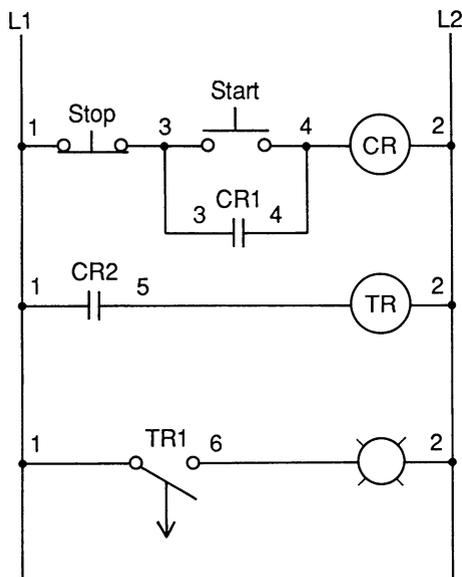

Fig. 9-6 Ladder diagram of control circuit with off-delay relay.
The off-delay relay shown in Fig. 9-6 is a ladder diagram of a control circuit. The *start* button is pushed and a voltage is applied to the relay's coil (CR). Then the START button is released, so CR-1 closes and maintains voltage to coil CR. Contact CR-2 also closes and a voltage is applied to coil TR. Contact TR 1 closes immediately and the indicator lamp turns on. The *stop* button is pushed and voltage is removed from coil CR. All CR contacts open. Voltage is also removed from coil TR. However, contact TR-1 remains closed for a preset period of time and the indicator lamp remains on. After the relay times-out, contact TR-1 opens and the light goes out.